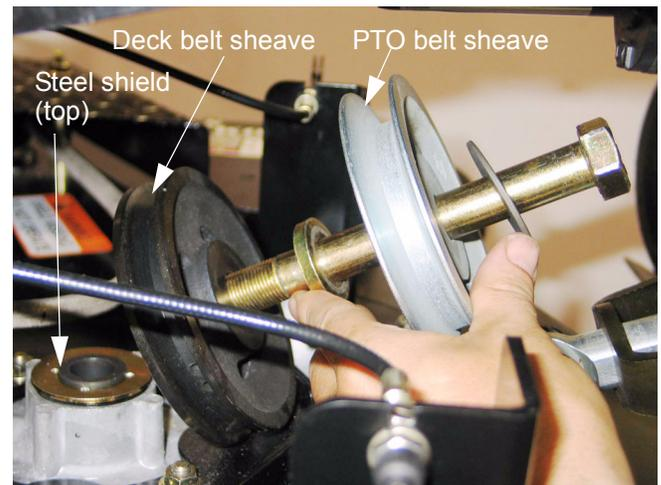

Figure 5.6
- 5.6. The center spindle has two pulleys, with a spacer between them, but the procedure is otherwise similar to the outer two spindles. See Figure 5.6.